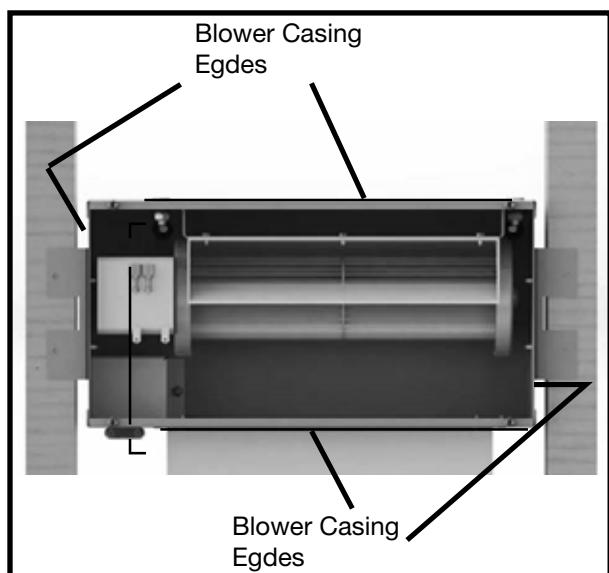

Figure 26: Blower details.
- Attach the 10"(254) X 3 1/4"(83mm) Transition Boot to the Remote Blower Assembly and seal with aluminium duct tape. Run 6" diameter approved Type "B" flexible or ridged gas vent pipe (vent pipe is not include with this kit) between the blower and the fireplace. Fasten in place with screws and seal with aluminium foil tape.
- Drywall and facing material must not cover the opening in the blower assembly. Remove the Face Plate. Cut the drywall so the edges butt up against the outside of the blower casing edges (Figure 26), top, bottom and sides.